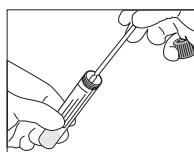

Fig. 1
3. Insert the swab into the tube until the breaking point (if present) reaches the level of the opening of the tube (Fig. 1).